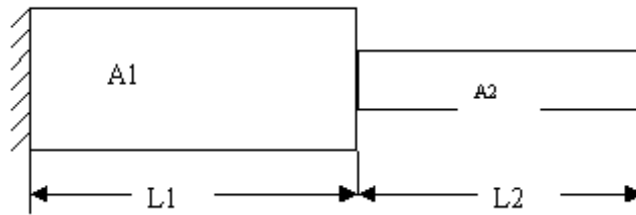

Figure 3:
7. Determine the Eigen values and Eigen vectors for the stepped bar shown in figure 3.  $E = 30 \times 10^6 \text{ N/m}^2$ , specific weight  $= 0.283 \text{ Kg/m}^3$   $A_1 = 1 \text{ m}^2$   $A_2 = 0.5 \text{ m}^2$   $L_1 = 10 \text{ m}$ .  $L_2 = 5 \text{ m}$ . [16]